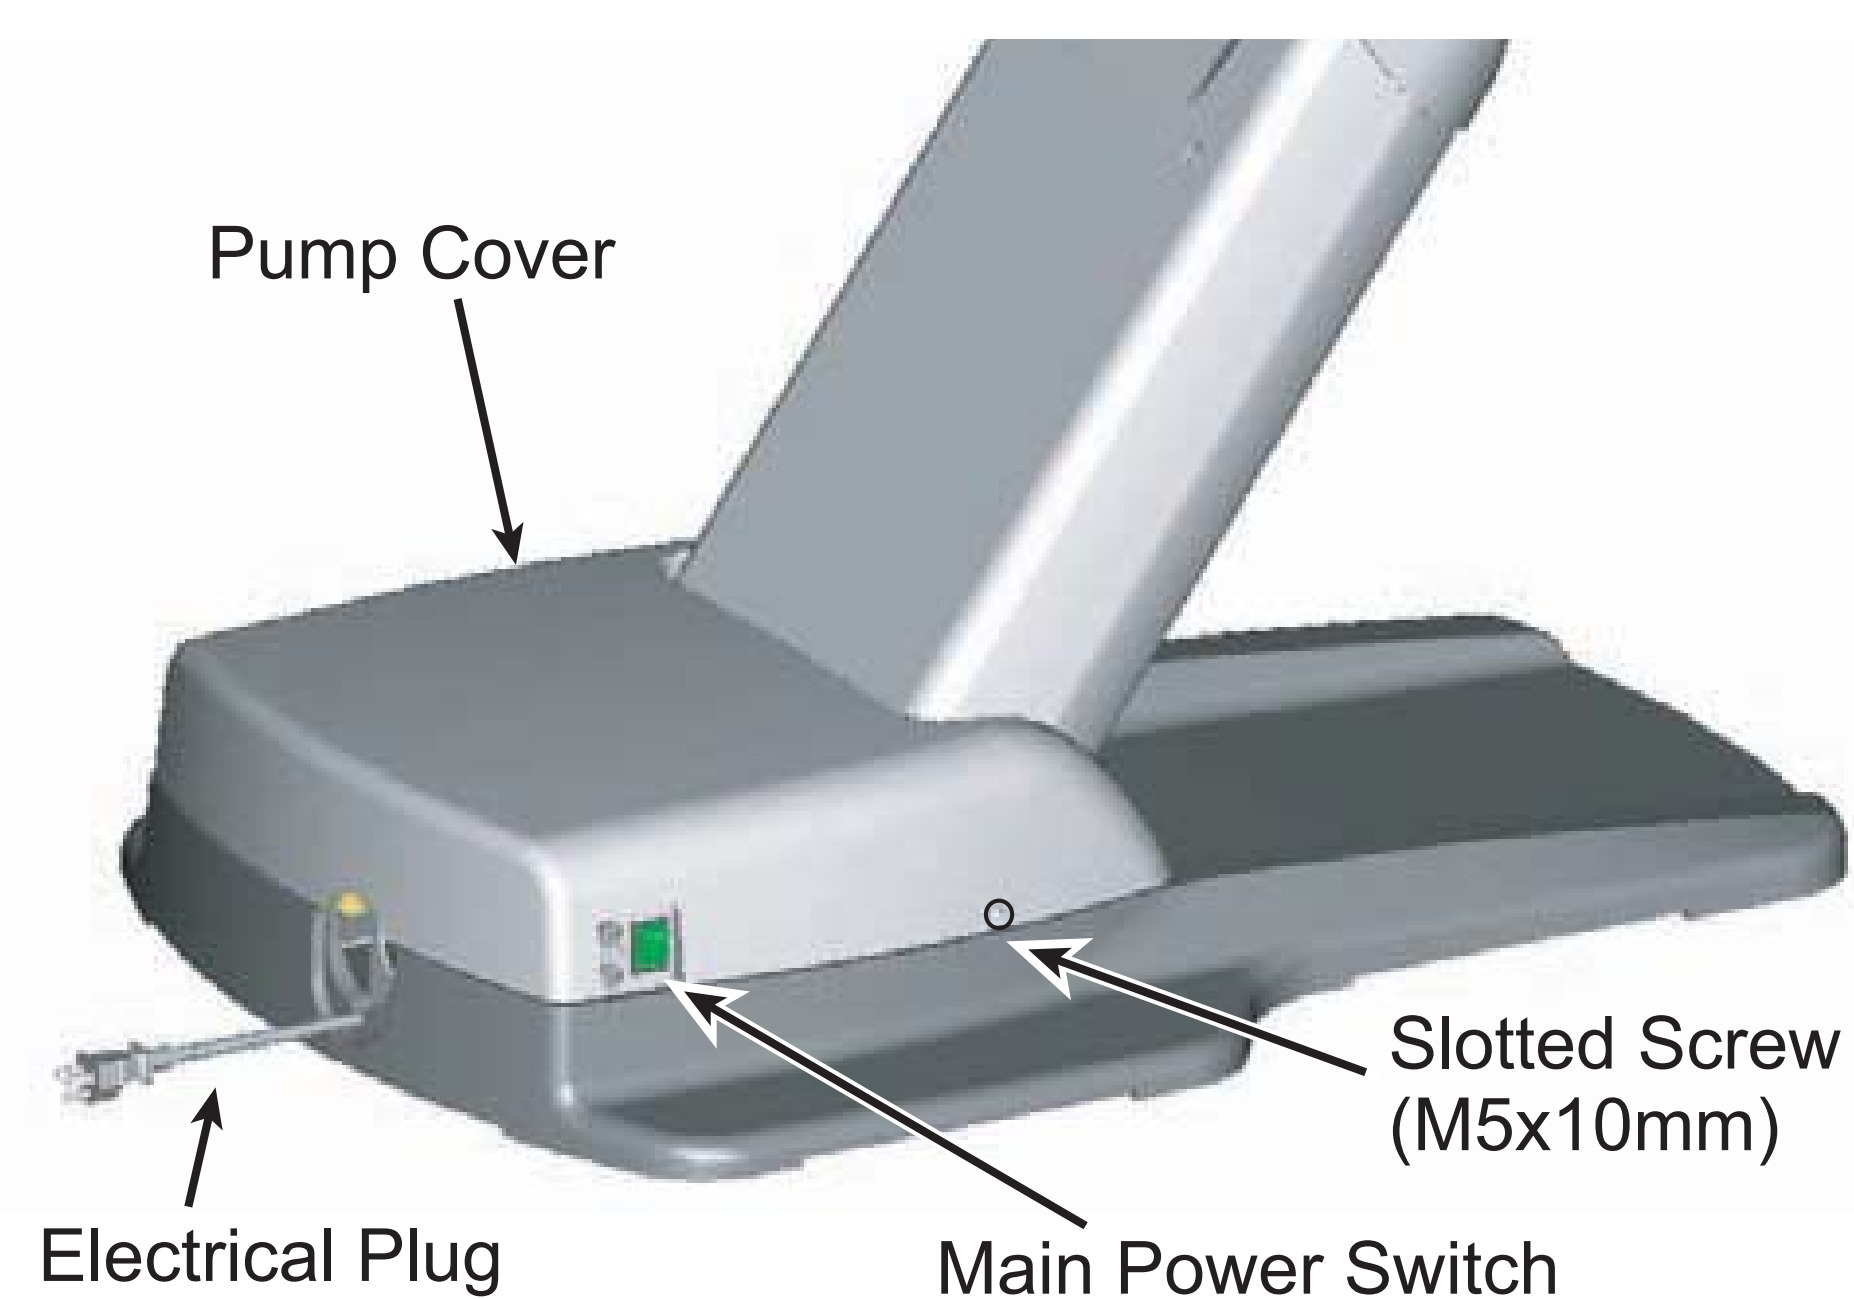

Fig. 5-3
4. Turn the Main Power Switch on and raise the chair up. (Fig. 5-3)
5. Remove the pump cover by removing two slotted screws (M5x10mm) from each side of the pump cover. (Fig.5-3)